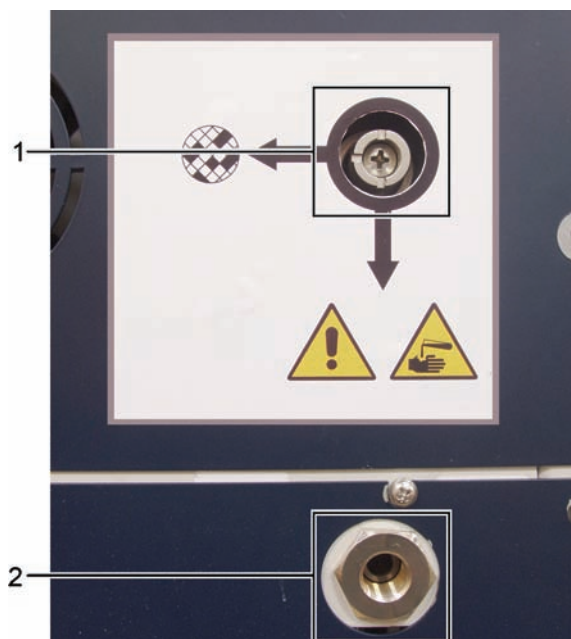

Figure 26: Vapor select valve (1) and vapor outlet (2)
1. Connect the instrument's vapor outlet into the external system (see item 2 in Figure 26).
3. If required, disconnect the external system from the vapor outlet (see item 2 in Figure 26). You may leave the external system connected as the vapor valve effectively isolates this outlet.